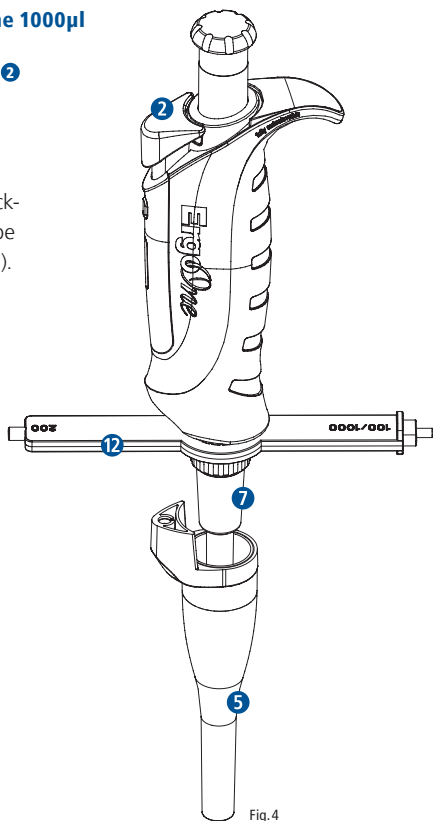

Fig.4
- Fully depress the tip ejector button **2** and pull the tip ejector **5** down (Fig. 4).